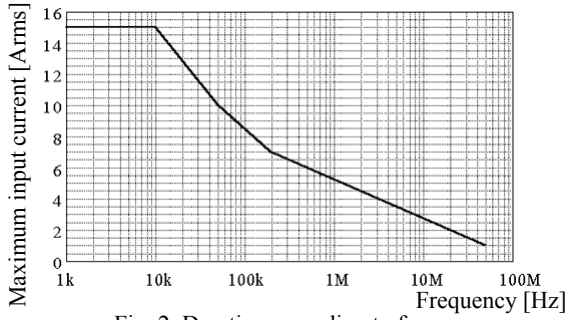

Fig. 2 Derating according to frequency
Maximum continuous current	15A (DC + ACrms) continuous (Refer to frequency derating curve, Fig. 2)
- The maximum continuous input range varies according to the frequency of the current being measured. See figure 2 in “Characteristics and Specifications”